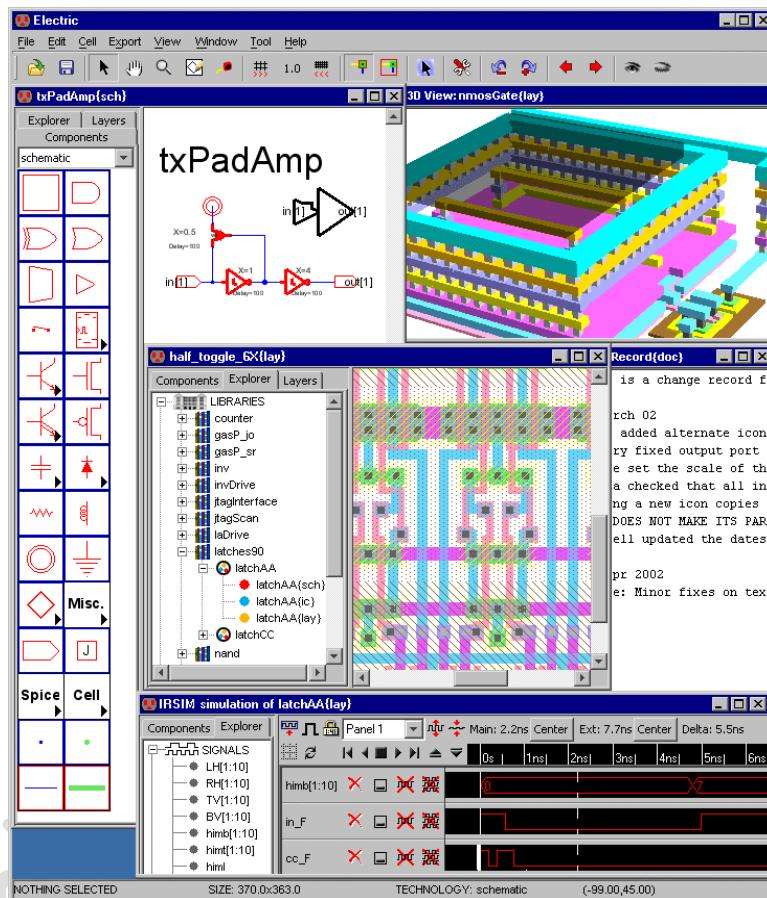

Figure 1.1: Electric VLSI Design System Version 9.07[4].
- Electric VLSI Design System provides a robust environment for VLSI designers to design and analyze integrated circuits, from small-scale designs to large-scale complex systems efficiently manually as shown in Figure 1.1.